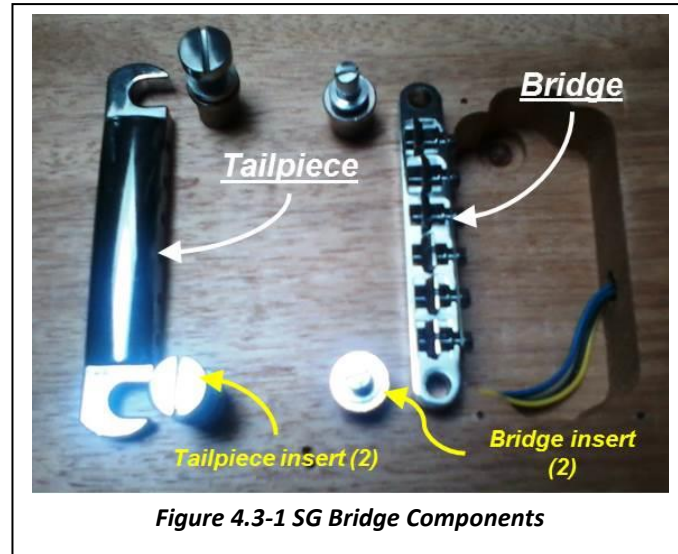

Figure 4.3-1 SG Bridge Components
Figure 4.3-1 shows each of the Bridge components and their orientation to the bridge pickup. The inserts are “press fit” into pre-drilled holes with the lower Bridge insert hole containing the ground wire from the Audio pocket – ensure this wire is present and that the end is **not** tinned/soldered. The length of the ground wire into the mounting hole can be adjusted by gently pulling on the wire from inside the Bridge pocket.
6. Place the bridge onto the adjustment screws with the individual string adjustment screws facing the neck (Figure 4.3-1).